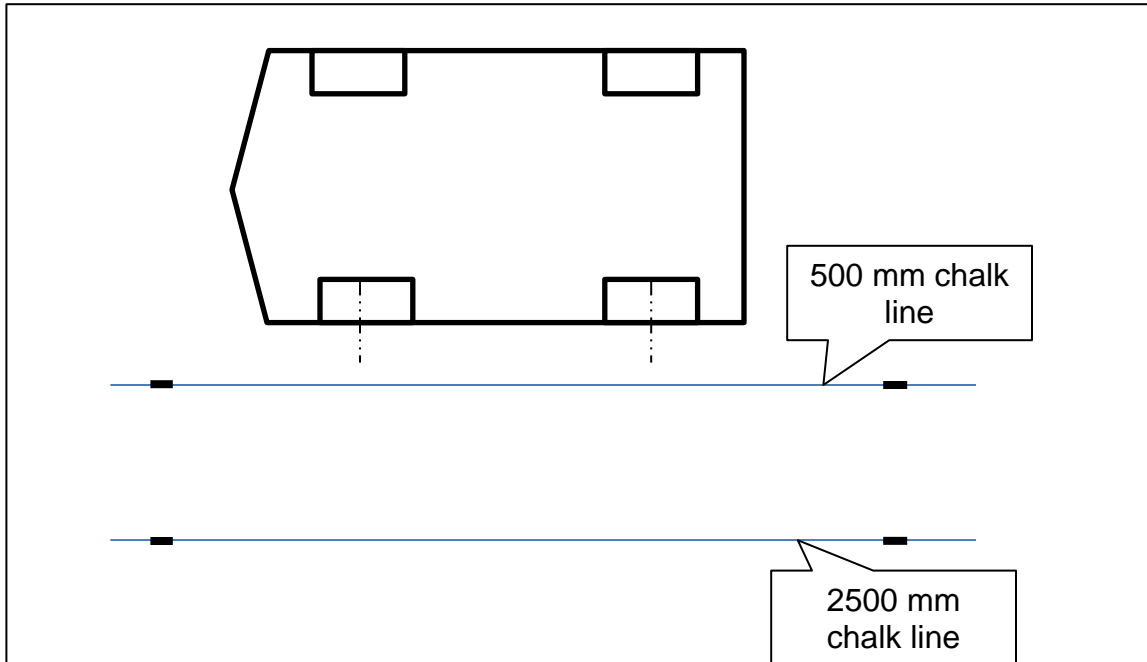
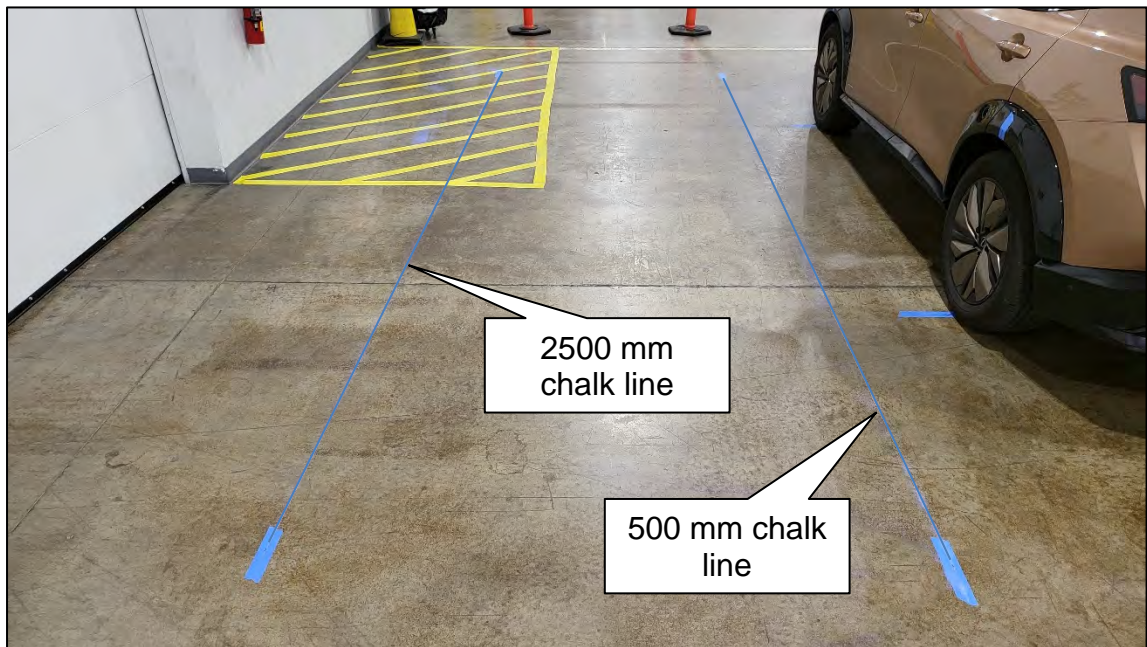

Figure 31
Figure 32
23. Use a chalk line tool to make a line between the 500 mm and 2500 mm marks, as shown in Figure 31 and Figure 32.